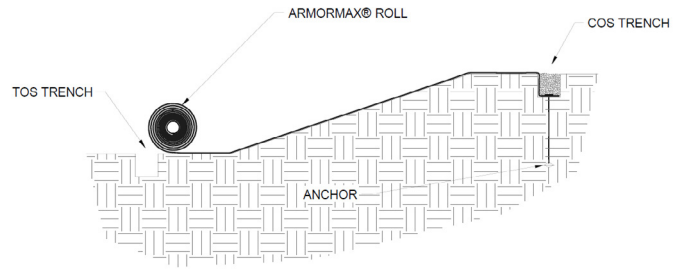

Figure 6: Placement of PROPEX Armormax across Slope
- Unroll the **PROPEX** Armormax roll on the slope surface in the area to be armored (Figure 6). Ensure that the HPTRM has intimate contact with the ground and all irregular surfaces beneath the material are removed.